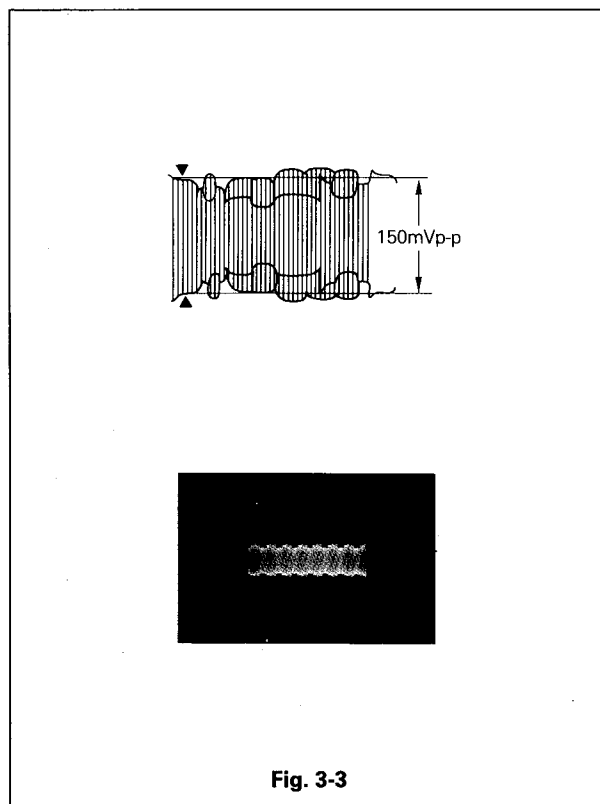

Fig. 3-3
- Adjust VR201 for a level (H. SYNC.) of 150mVp-p, as shown in Fig. 3-3.